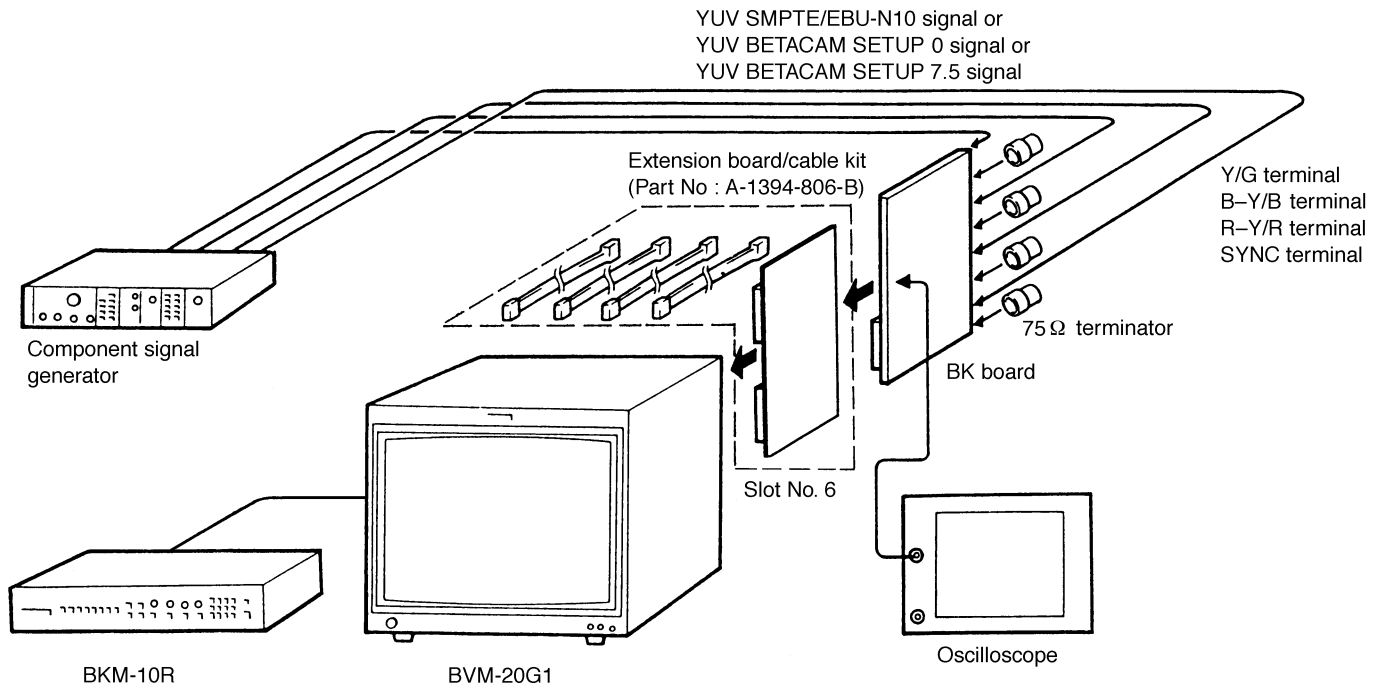

Fig. 5-7
4. As shown in Fig. 5-7, adjust the R-Y GAIN data and B-Y GAIN data so that the GREEN waveform becomes flat.